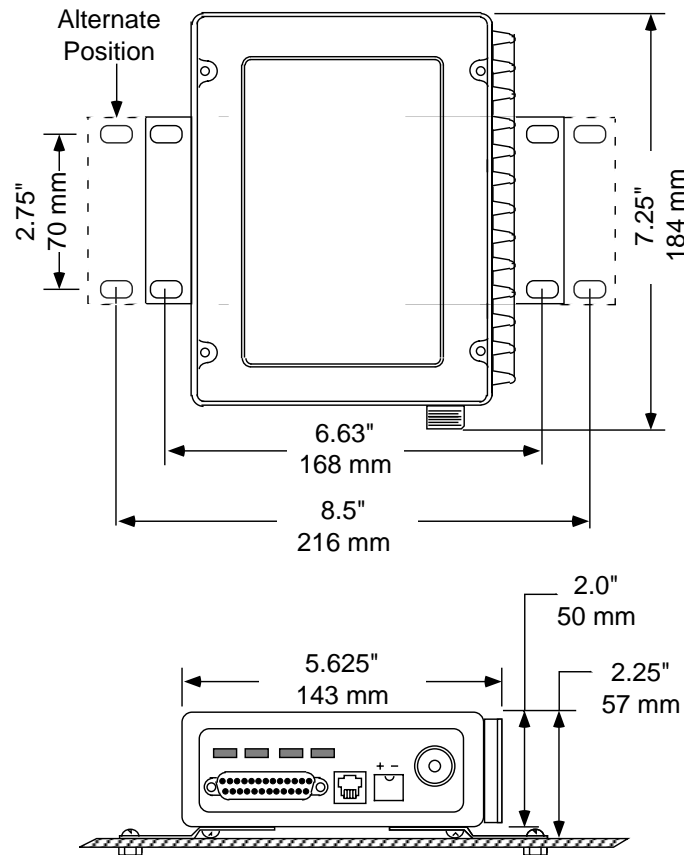

Figure 13. Transceiver Mounting Dimensions
1. Mount the transceiver to a stable surface using the brackets supplied with the radio. (Fasteners/anchors are not supplied.) Figure 13 shows the dimensions of the transceiver case and its mounting bracket. If possible, choose a mounting location that provides easy access to the connectors on the end of the radio and an unobstructed view of the LED status indicators.